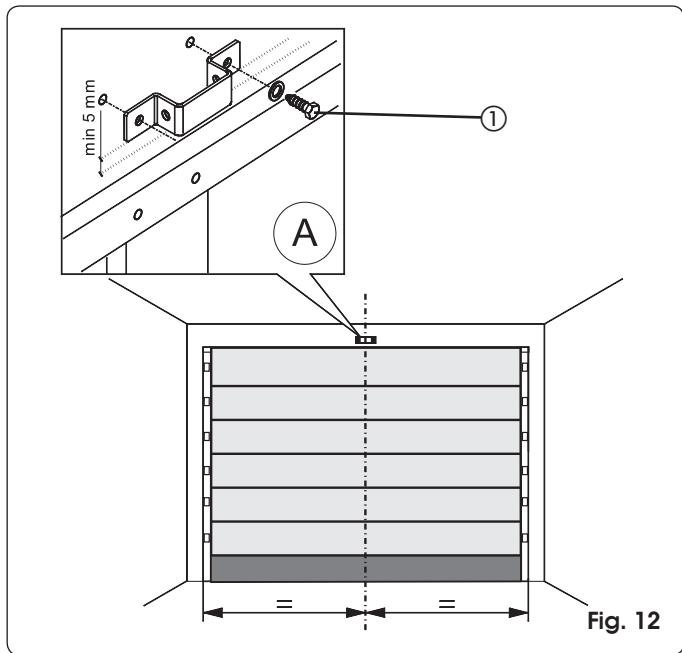

Fig. 12
- 1) On the architrave, mark a line corresponding to the vertical mid-point of the door (Fig. 12).
- 3) Position the securing bracket of the front fitting, so that the lower edge is at least 5 mm above the intersection point of the lines and centred with respect to the vertical line (Fig. 12). Also refer to paragraph 7.2 for correct positioning of the bracket with respect to the fitting point on the door.
- 5) Next, drill and install, using the screws (ref. ① Fig. 12) **NOT supplied**.